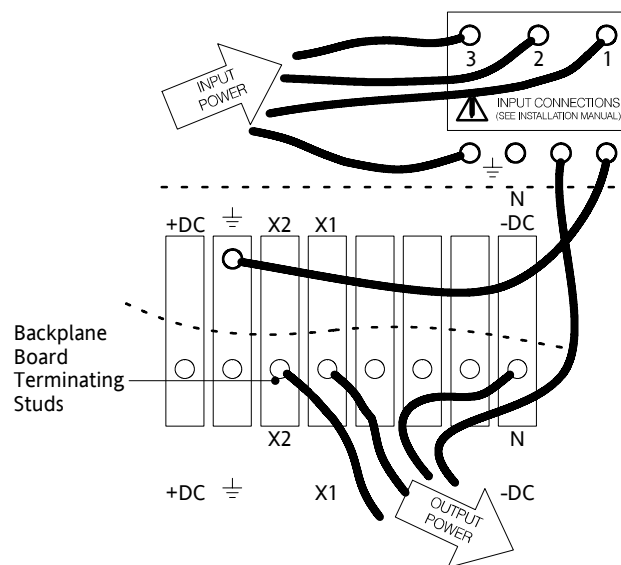

Figure 27. UPS Input and Output Terminals
5. Figure 27 shows input and output wiring terminals inside the Powerware 9170+ UPS cabinet.